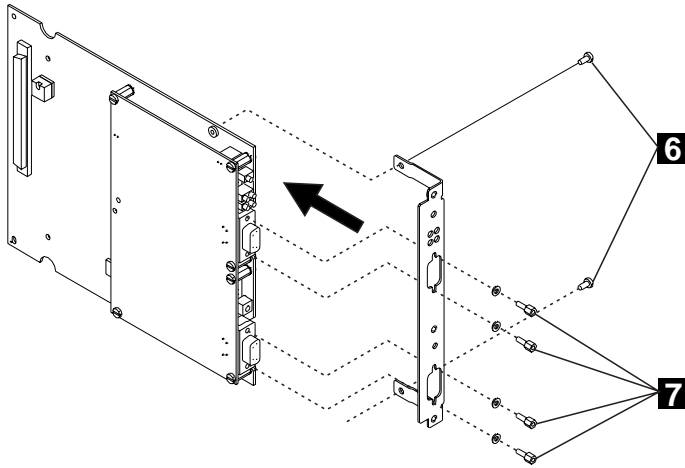

Figure 10. Attaching the Faceplate Bracket
- **7** Attach the faceplate bracket to the motherboard using the two screws (**6** in Figure 10 on page 23) from the old dummy bracket.